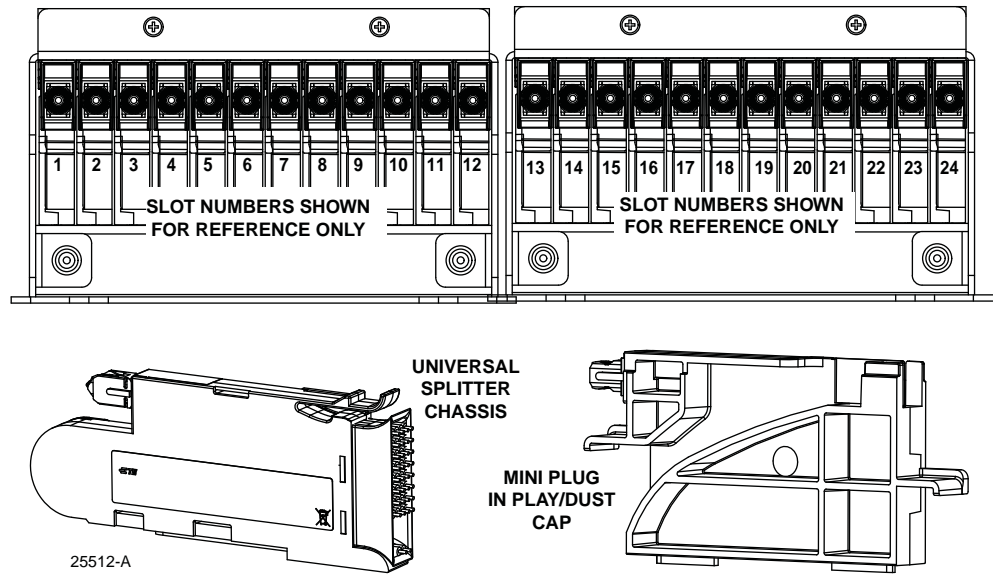

Figure 17. Splitter Module Installation
1. Locate the next available splitter mounting position as shown in Figure 17.